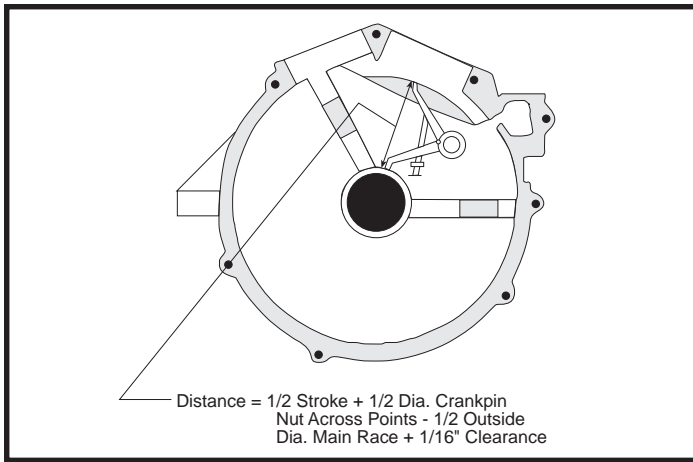

Figure 2
- Use divider to scribe arc on blued bosses. **See Figure 2.** Formula for spread of divider is: